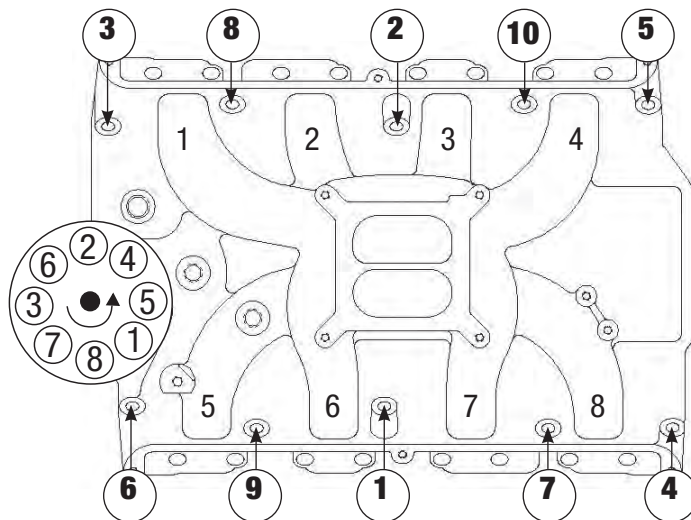

Figure 1 - 326-428 FE Ford Torque Sequence
- 6) Install the intake manifold and hold-down bolts. Torque all of the manifold bolts in two steps by the sequence shown in Figure 1 to 25 ft/lbs. While tightening the intake manifold bolts, the distributor should be installed in its proper position. Care should be taken to make sure that the distributor is centered in the hole in the intake manifold and that it can be freely removed and reinstalled after the intake manifold bolts are tightened.